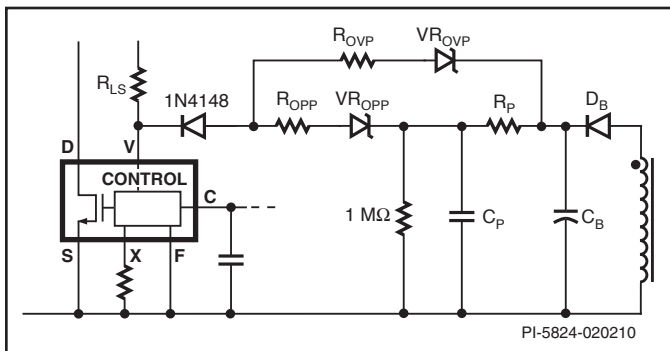

Figure 22. Implementation of Overvoltage Protection Together With Over-Power Protection Using the TOPSwitch-JX
- A soft finish circuit is recommended for high output voltage designs (>12 V) especially where large value output capacitors are used. This ensures start-up with full load at low line and also prevent output voltage overshoot. In Figure 22, R23, D6 and C19 show one implementation of the soft finish circuit.
Primary side sensed over-power protection can be implemented via the V pin by sensing the voltage on the bias winding. Figure 22 shows this configuration. Zener diode VR_{OPP} provides the output overvoltage protection and VR_{OPP} together with R_p and C_p provides overpower protection. This approach works well where the desired OPP limit is >150% of the full load output power.